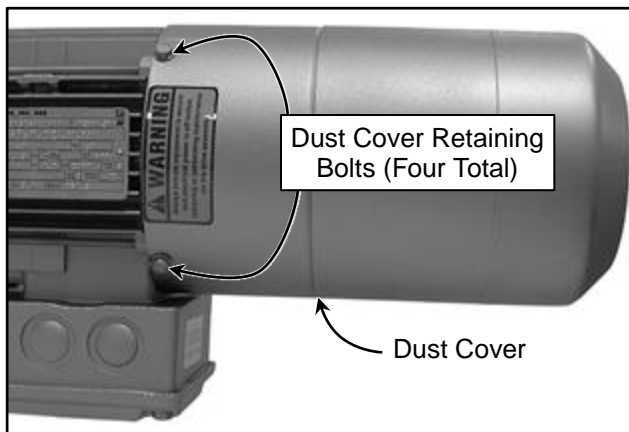

Figure 43
2. Loosen the retaining bolts securing the brake dust cover to the motor assembly. Remove the cover. (See Figure 43)